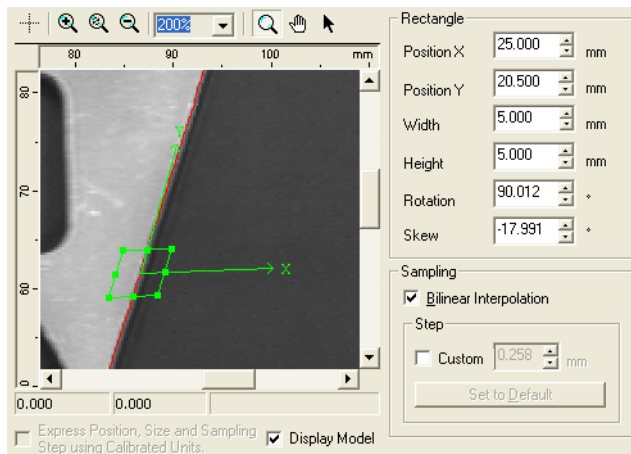

Figure 111 Adjusting Rectangle for the Hook's Right Edge
8. Place the Rectangle on the part as shown in Figure 111. Click the arrow of the X-axis and drag it to adjust the rotation to 90 degrees. Click the center of the Rectangle and drag it into position. Since the edge to be located is not orthogonal to the tool's X-axis, adjust the skew by clicking and dragging the arrow of the Y-axis to make it parallel to the right edge of the part. Fine-tune the position with the text boxes if needed. Once the Rectangle is placed, click **Execute**.